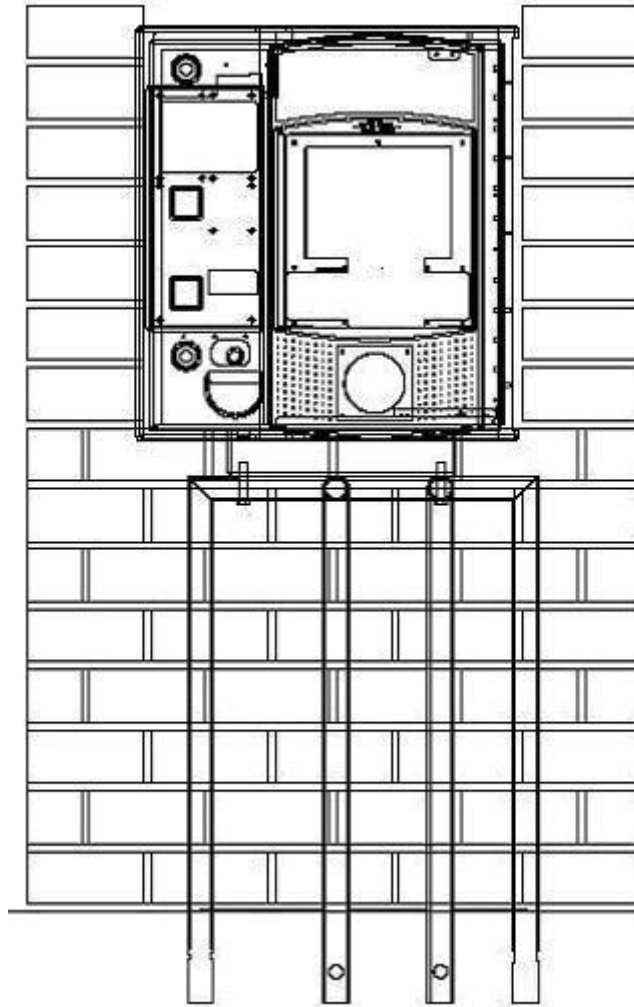

Figure 12. Portal Brick-In with Adaptor Plate on Base Frame
Follow the base installation instructions in section 2.3 to set the base frame in the concrete. The adapter plate attaches to the (3) studs on top of the frame with ½” nuts and washers. Position the frame so the front of the adapter plate will be recessed 4.5” from the front face of the brick (as shown in Figure 12).